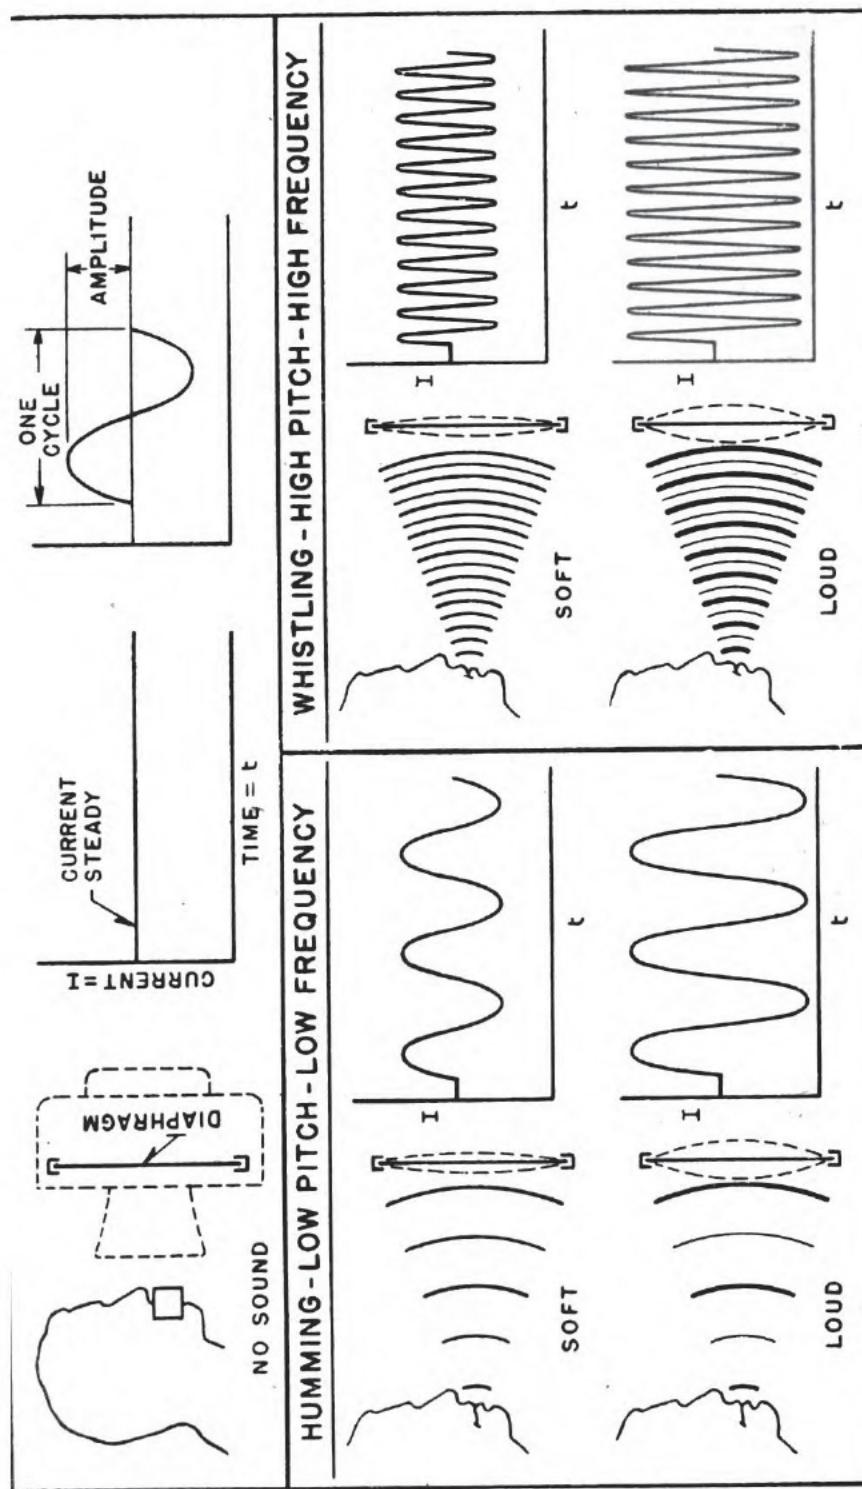

Figure 174.—Sound wave frequency and current frequency.
In vibrating, the receiver diaphragm sets up sound waves, condensations, and rarefactions, that are replicas of those striking the transmitter. The loudness, or volume, of sound reproduced depends on the amplitude, or intensity of sound, at the transmitter. A sound of high amplitude causes the diaphragm to move a greater distance on either side of the neutral position. In figure 174, you can see how diaphragm movement in low-amplitude vibration differs from diaphragm movement in high-amplitude vibration. You can also see the changes in current strength that occur when sounds of different amplitudes and frequency impinge on the transmitter. In both (A) and (B) of figure 174, the horizontal axis designates time.